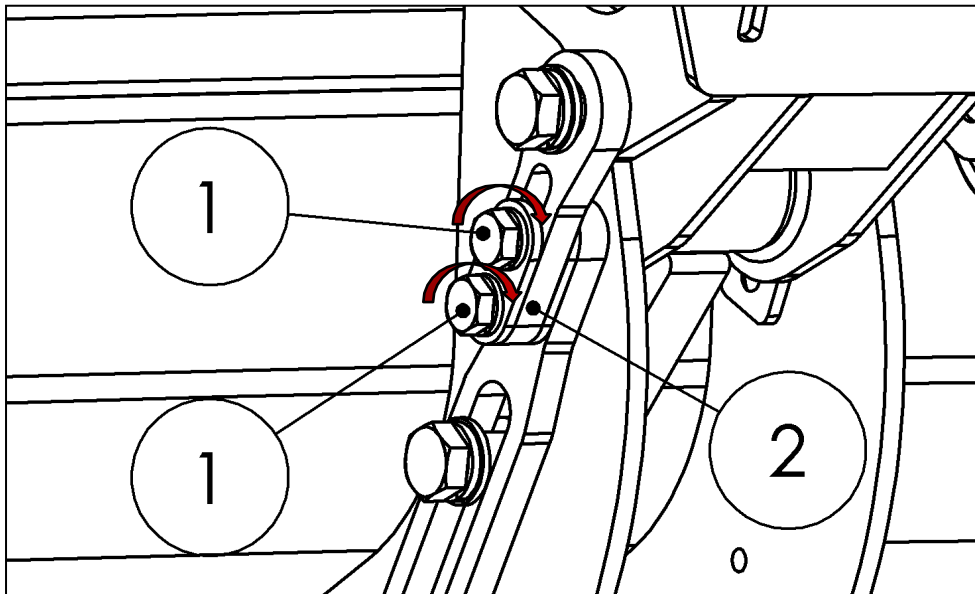

Figure 83
- Retighten the 2 screws (1) on the clamping plate (2) on the platform stop to a torque of 195 Nm (see Fig. 83).